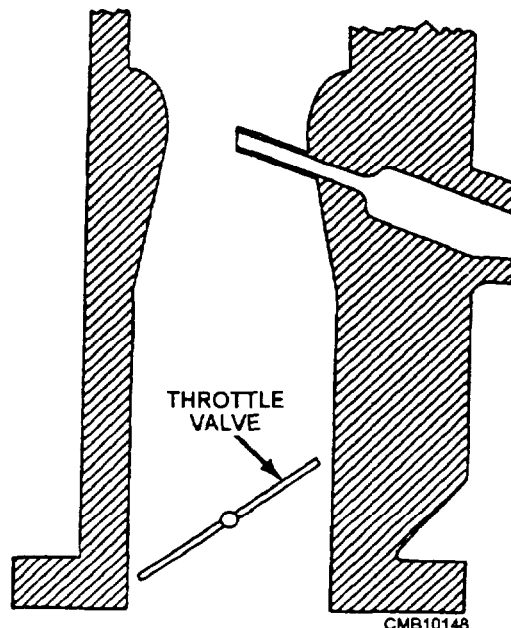

Figure 4-19.—Simple carburetor with throttle valve.
- **THROTTLE VALVE** (fig. 4-19). This disc-shaped valve controls air flow through the air horn. When closed, it restricts the flow of air and fuel into the engine, and when opened, air flow, fuel flow, and engine power increase.